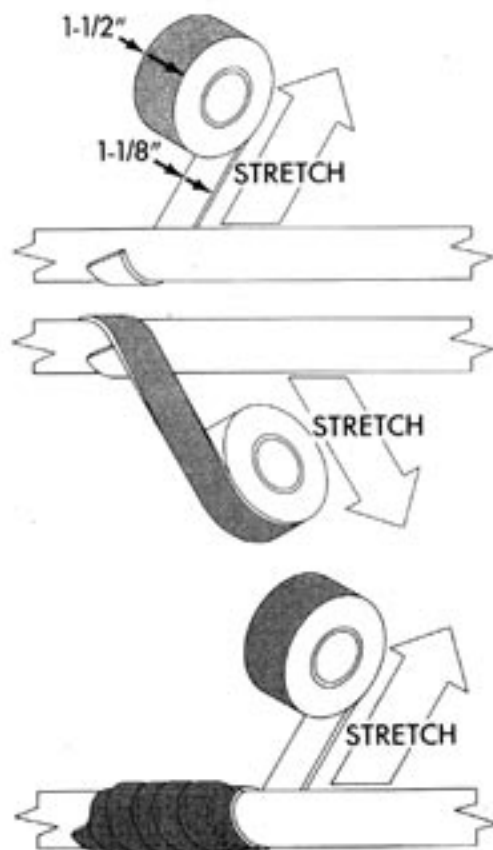

Figure 16 — Applying LOCK-TAPE[™] Sealant
8.02 Half lap 1½" LOCK-TAPE[™] Sealant around cable (black side up) in area of cable coated with C-Cement. Stretch tape while applying. Use one or two half lapped layers as determined by the measurement. Figure 16.